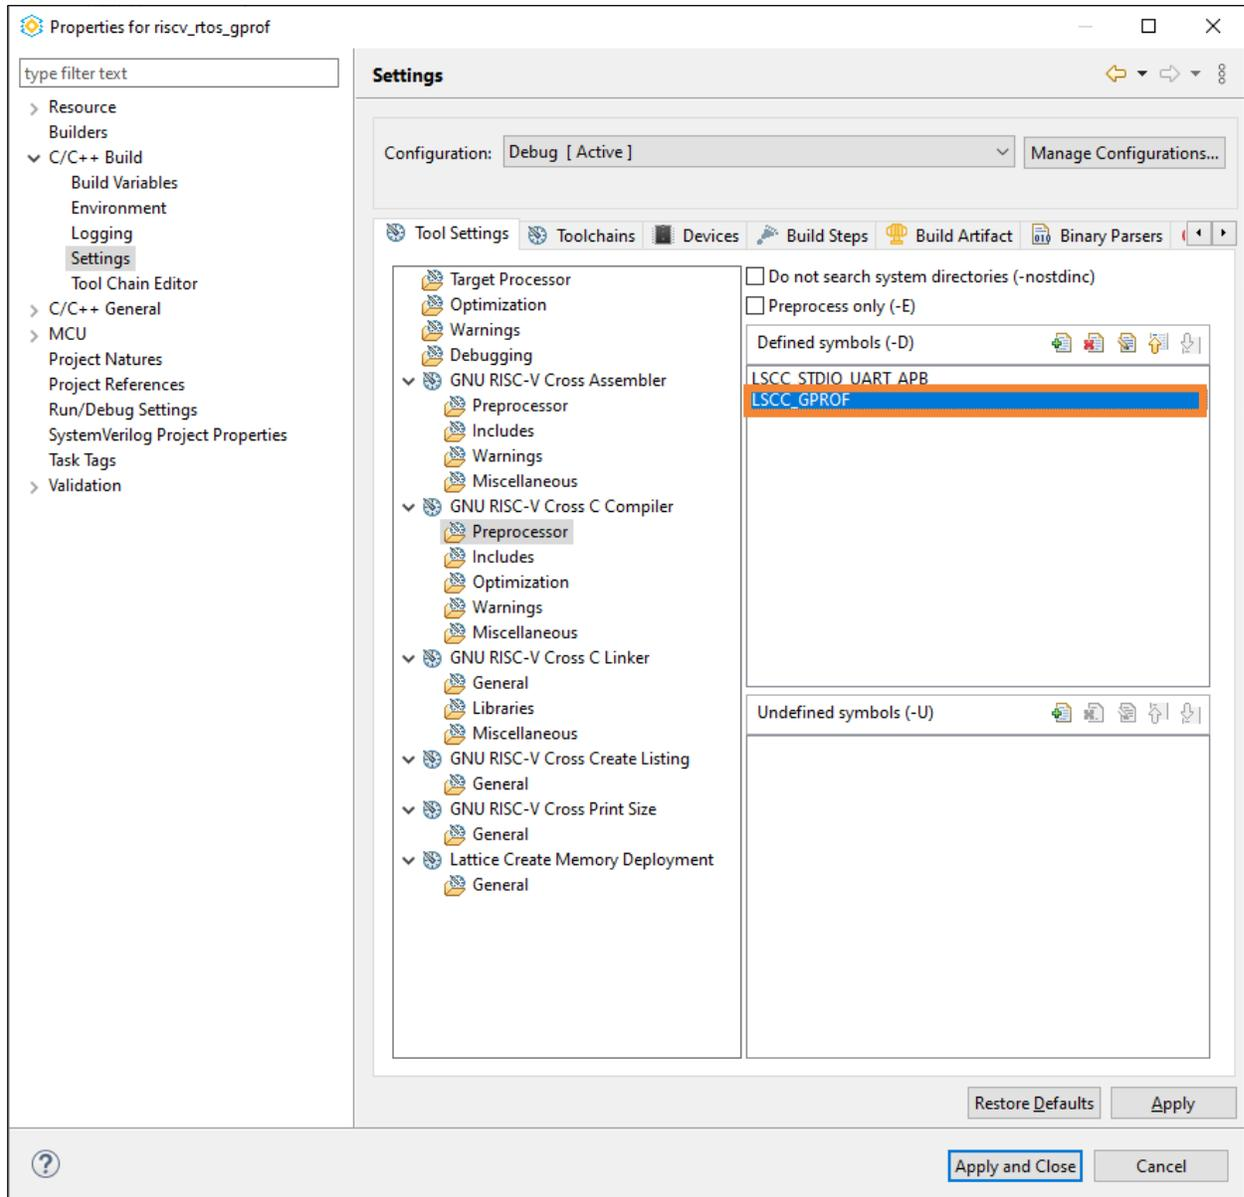

Figure 7.6. LSCC_GPROF Symbol
4. Select **GNU RISC-V Cross C Compiler > Preprocessor**. Add the defined symbol, **LSCC_GPROF** (Figure 7.6).
4. Select **GNU RISC-V Cross C Compiler > Preprocessor**. Add the defined symbol, LSCC_GPROF (Figure 7.6).